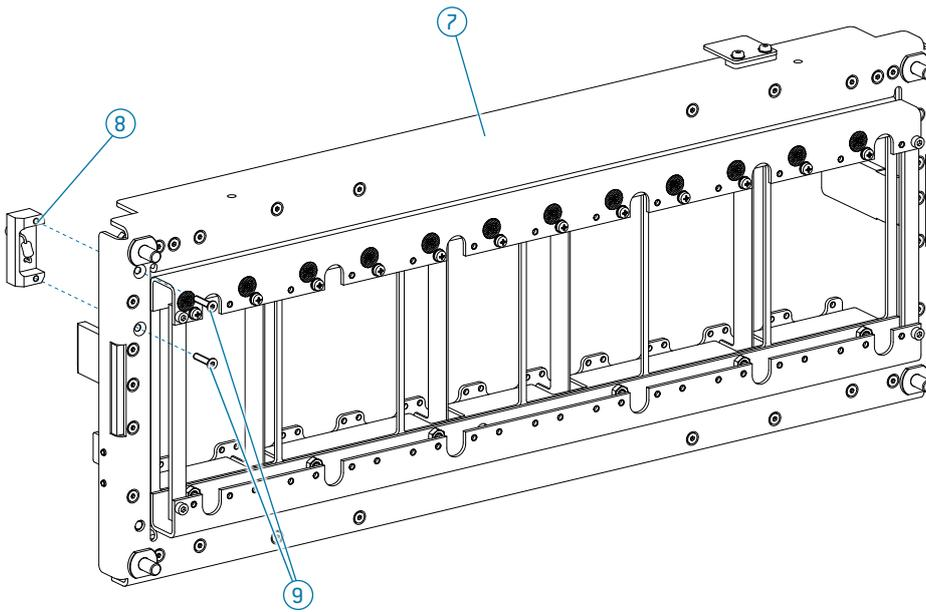

Fig. 142
- ▶ The resistor coding **8** can be connected to the adapter **7** at the position shown in Fig. 142.